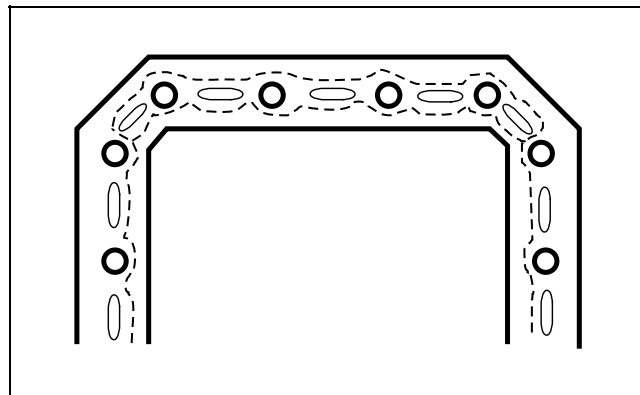

Figure 81a
9. Apply silicone sealant to the oil pan using the pattern shown in Figure 81a. Wait 10 minutes before installing the oil pan to allow partial hardening of the gasket material.